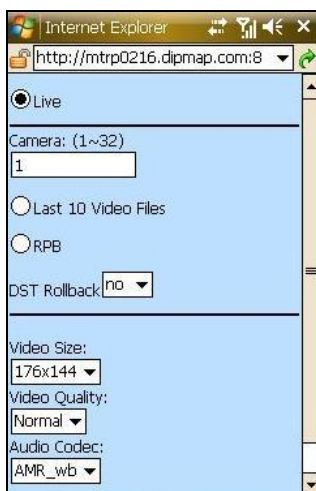

Figure 8-75
1. On the Settings page (see Figure 8-75), select **RPB** and click **Submit**. This page appears.
1. On the Settings page (see Figure 8-75), select **Last 10 Video Files** and click **Submit**.